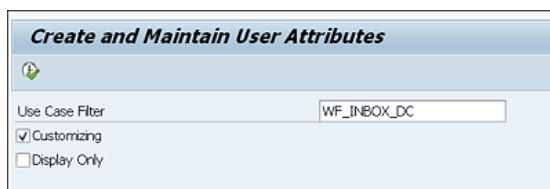

Figure 11.10 Transaction SWF_USER_ATTR
2. Enter **Use Case Filter** “WF_INBOX_DC”, and select and execute the **Customizing** checkbox, as shown in Figure 11.10.